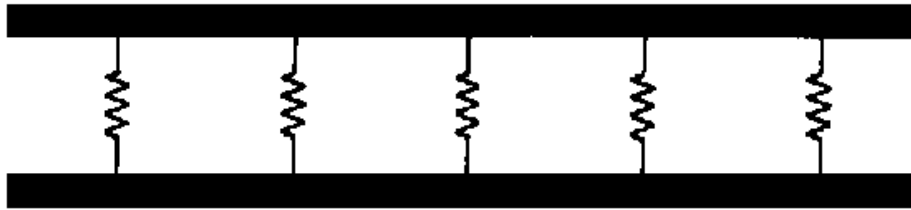

Figure 3-13.—Leakage in a transmission line.
Since any dielectric, even air, is not a perfect insulator, a small current known as LEAKAGE CURRENT flows between the two wires. In effect, the insulator acts as a resistor, permitting current to pass between the two wires. Figure 3-13 shows this leakage path as resistors in parallel connected between the two lines. This property is called CONDUCTANCE (G) and is the opposite of resistance.